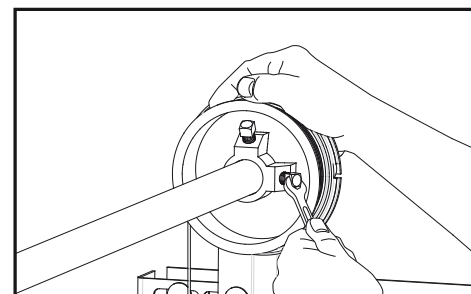

Fig. 5.4.3
- Once the cable is taut, slide the cable drum against the side bearing bracket and tighten the screws to the torsion bar. Fig 5.4.3.